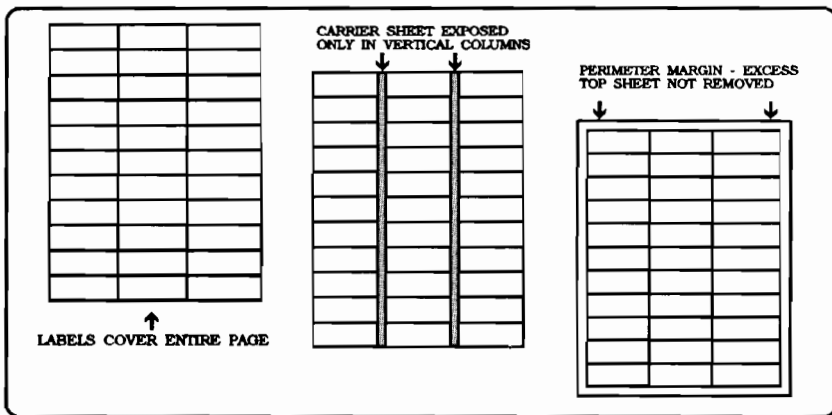

Figure 2-3. Adhesive Label Arrangements
- **Label arrangement:** Labels should be so arranged on the carrier sheet that they cover the entire page. If the carrier sheet is exposed at all, it must **only be exposed lengthwise down the sheet** (see Figure 2-3). Using label stock with spaces between the horizontal rows of labels can often result in labels peeling off during printing, causing serious jamming and possible printer damage.